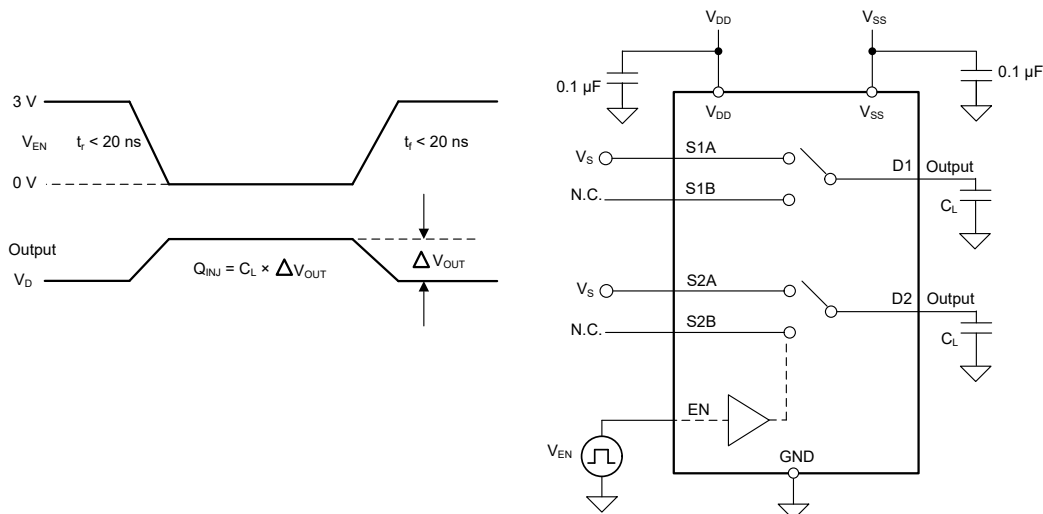

Figure 6-9. Charge-Injection Measurement Setup
The TMUX7236 has a transmission-gate topology. Any mismatch in capacitance between the NMOS and PMOS transistors results in a charge injected into the drain or source during the falling or rising edge of the gate signal. The amount of charge injected into the source or drain of the device is known as charge injection, and is denoted by the symbol Q_{INJ} . Figure 6-9 shows the setup used to measure charge injection from source (Sx) to drain (D).